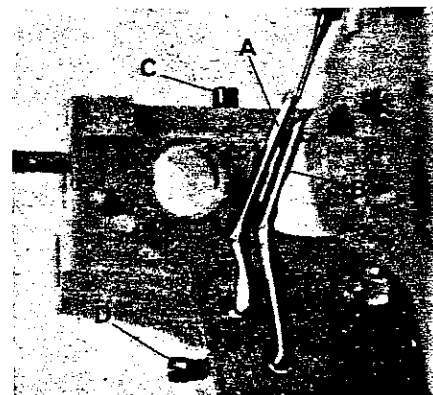

fig. 10
6. Mounting needle guards (fig. 10)